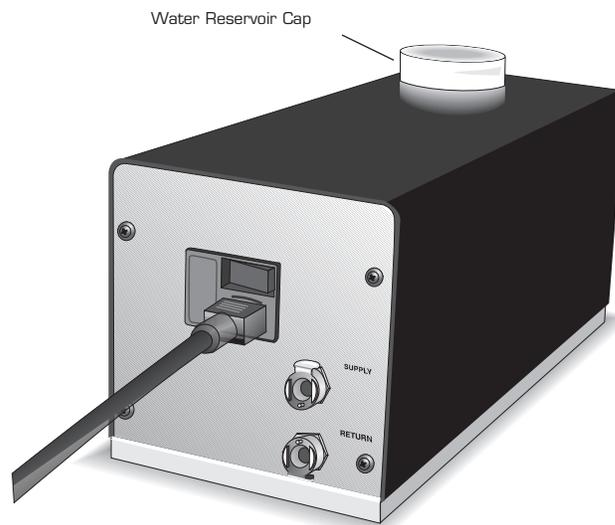

Figure 2.4
The heat exchanger contains a liquid reservoir that supplies the instrument with coolant to dissipate heat from the furnace. The coolant exits the heat exchanger through the supply line, circulates to the furnace, and comes back to the reservoir via the return line as seen in Figure 2.4 (for instructions on how to connect the water lines, turn to page 2-12). To fill the heat exchanger, follow the directions given here.
1. Unscrew the water reservoir cap on the heat exchanger (see Figure 2.4).